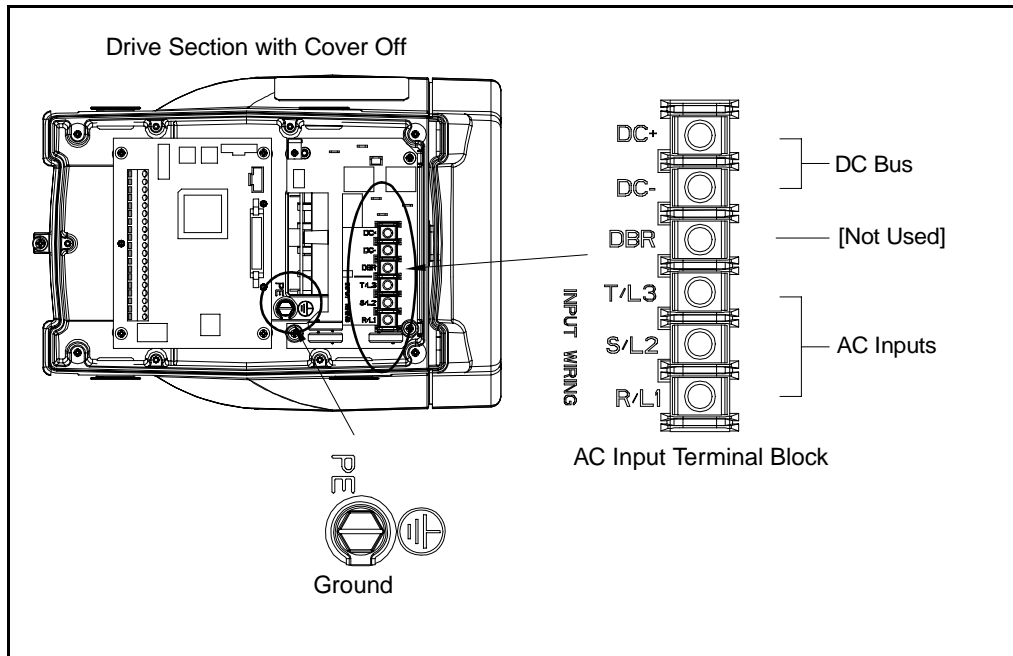

Figure 5.2 – AC Input Power Connections
Step 2. **For three-phase input:** Connect the incoming three-phase AC line to terminals R, S, and T, as shown in figure 5.2.
For single-phase input: Connect the incoming single-phase AC line to any two of the terminals R, S, T shown in figure 5.2.
Connect the ground wire brought in with the incoming AC power to the unit's grounding screw (see figure 5.2). This grounding conductor must run unbroken from the unit to earth ground. The recommended tightening torque is 2.6 Nm (32 in-lb).